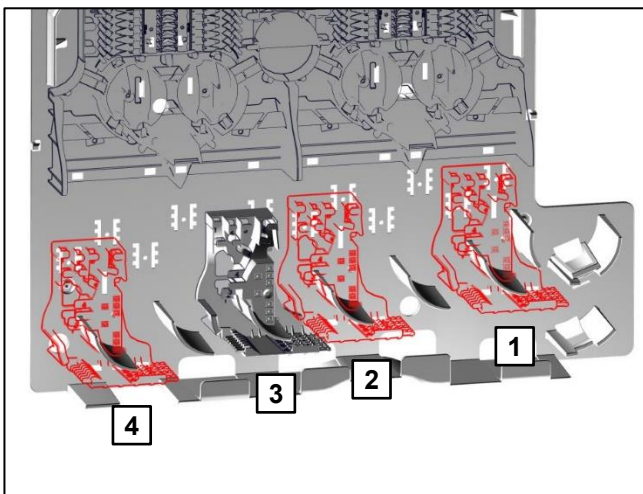

Fig. 30
- The cable organiser access (1) can be mounted in four different positions (see Fig. 30).